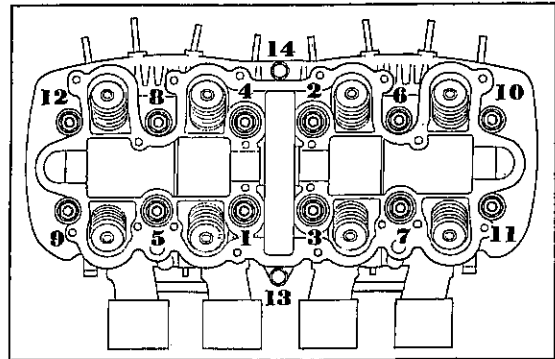

Fig. 83
11. Tighten the twelve 8mm nuts with the special tool to a torque of $2.0 \sim 2.2 \text{ kg-m}$. ($14.46 \sim 16.63 \text{ ft-lbs}$) in the sequence shown in Fig. 83.